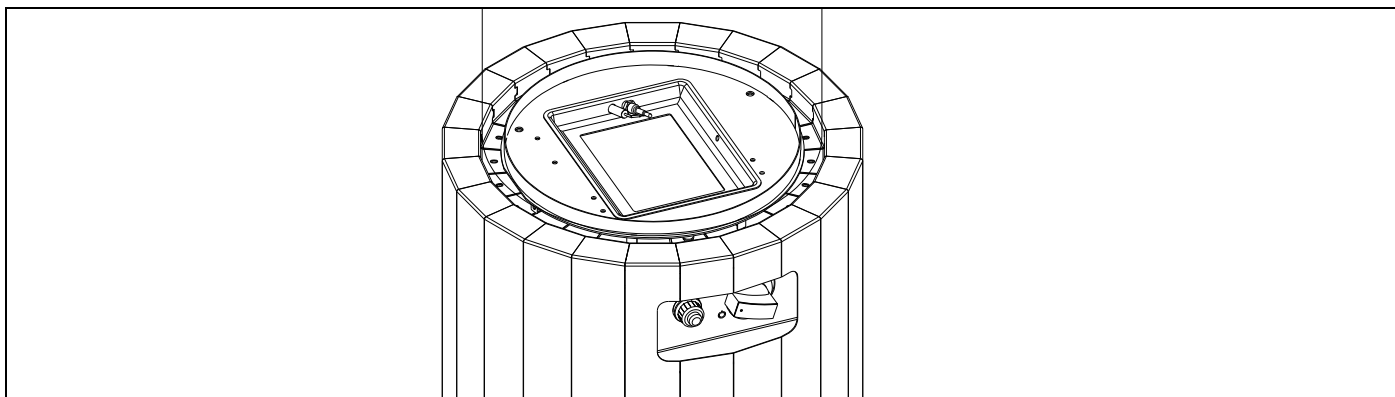

Fig 9– Control panel
- Make sure that the knob is placed in „OFF” position (all the way clockwise) (Fig 9).